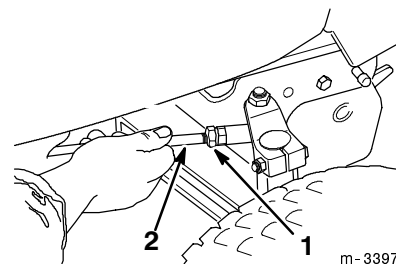

Figure 48
1. Loosen the jam nuts at the ends of the steering rods (Fig. 48).